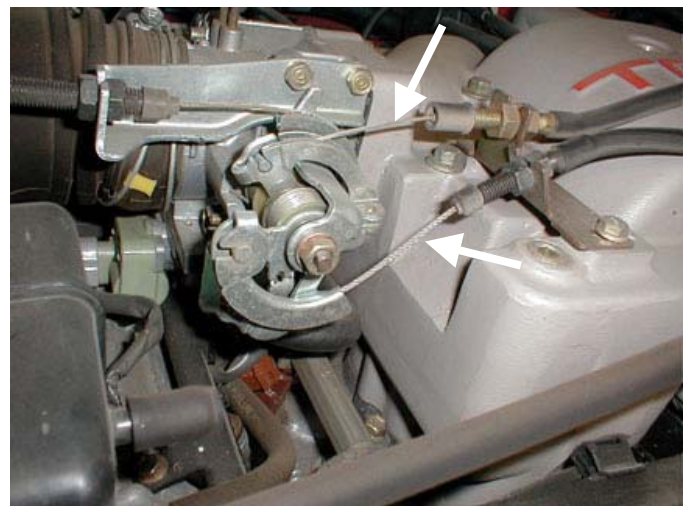

Figure 3
4. Remove the transmission kickdown cable and throttle cable (if necessary, Figure 3).